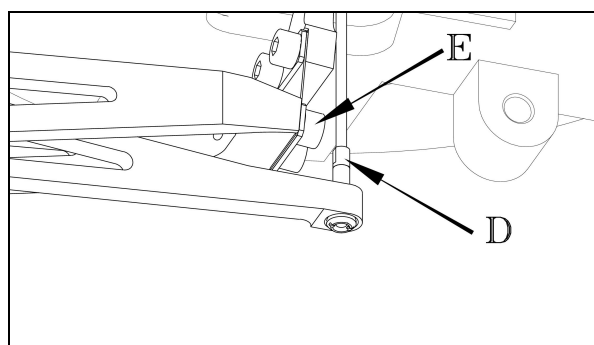

Fig 3
4. Disconnect and remove the spreader wire (D), Fig 3.
5. Disconnect the looper drive link by removing screws (E) in Fig 3.